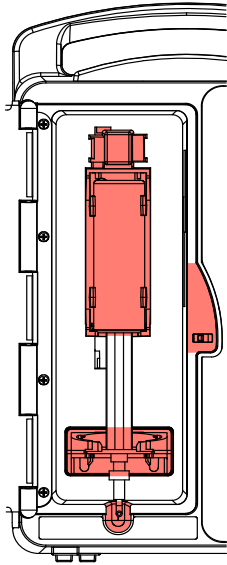

Figure 8-5.
5. Using swabs, carefully clean the cradle release mechanism, vial cradle, vial cradle clips, and injector flange retainer, including the vial and injector sensor pins, without tilting the infuser backwards. See highlighted region in **Figure 8-5**.